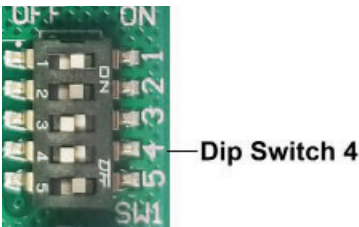

FIGURE 12:
To ENABLE Energy Saving Mode, set DIP Switch 4 to ON (ENABLE) to allow the FAVC to not control the central fan during a call for ventilation. In the ENABLE mode, the FAVC will independently energize the vent (V) and auxiliary fan (E) terminals when fresh air ventilation is required; and the HVAC system is not running. Refer to Figure 12 and Figure 13 for DIP Switch 4 setting to configure FAVC central fan control during a call for ventilation function.